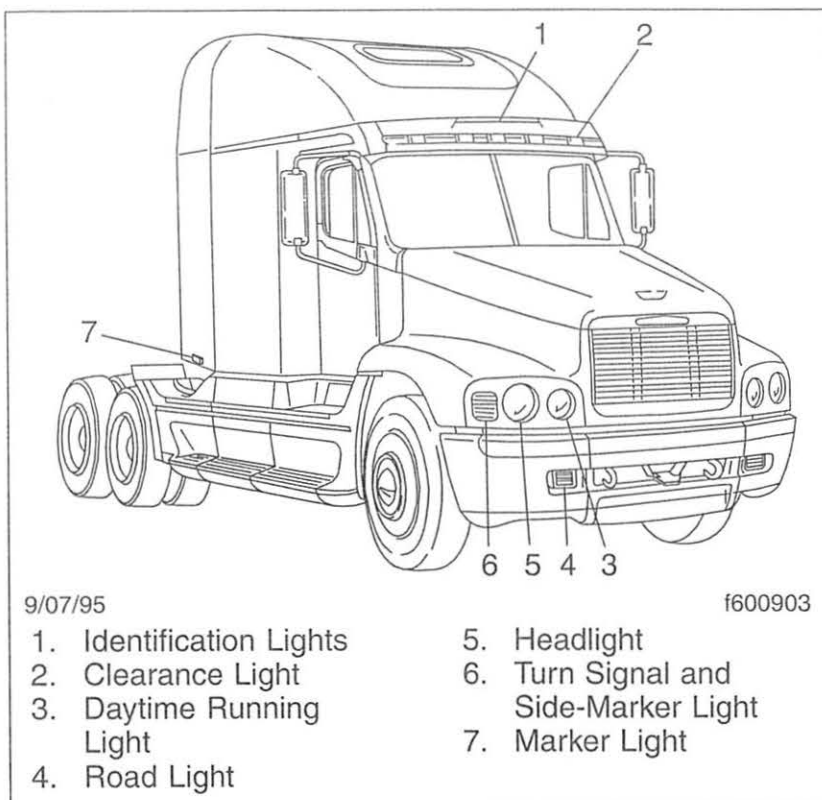

Fig. 11.10, Exterior Lights
28. Be sure the brake lights, taillights, side marker lights, road lights (if so equipped), headlights, signal lights, daytime running lights, and clearance and identification lights are working and are clean. See **Fig. 11.10**. Test the high- and low-beams of the headlights. Replace light bulbs or sealed beam units that are not working.